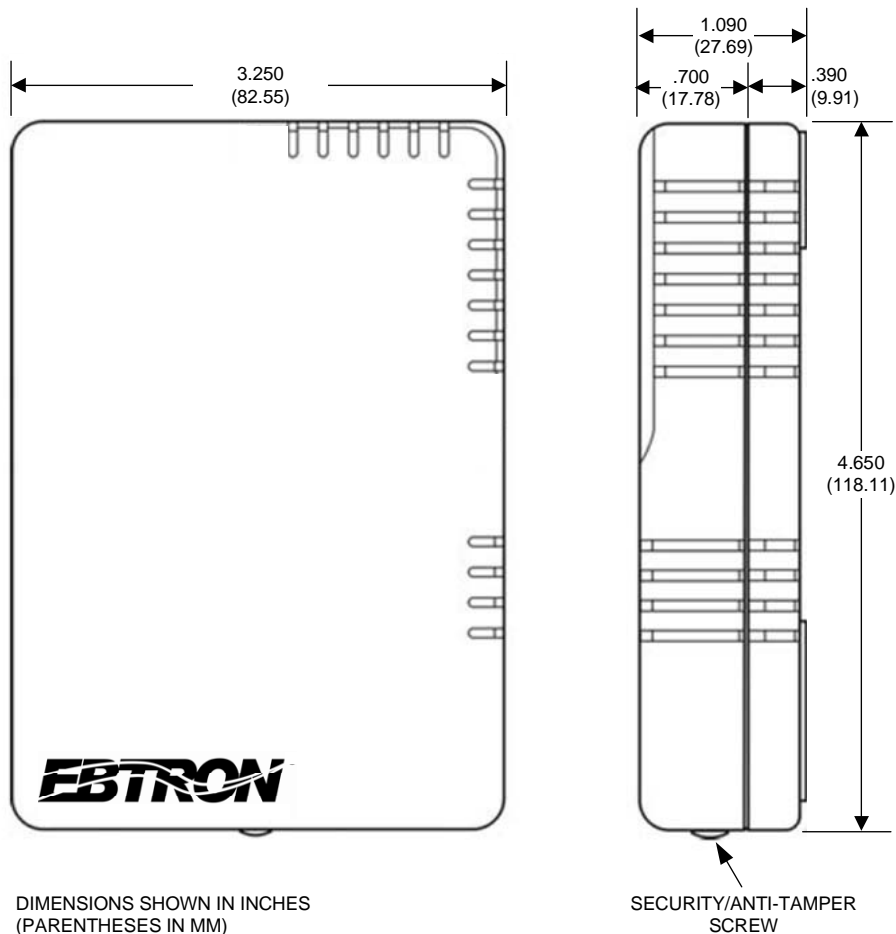
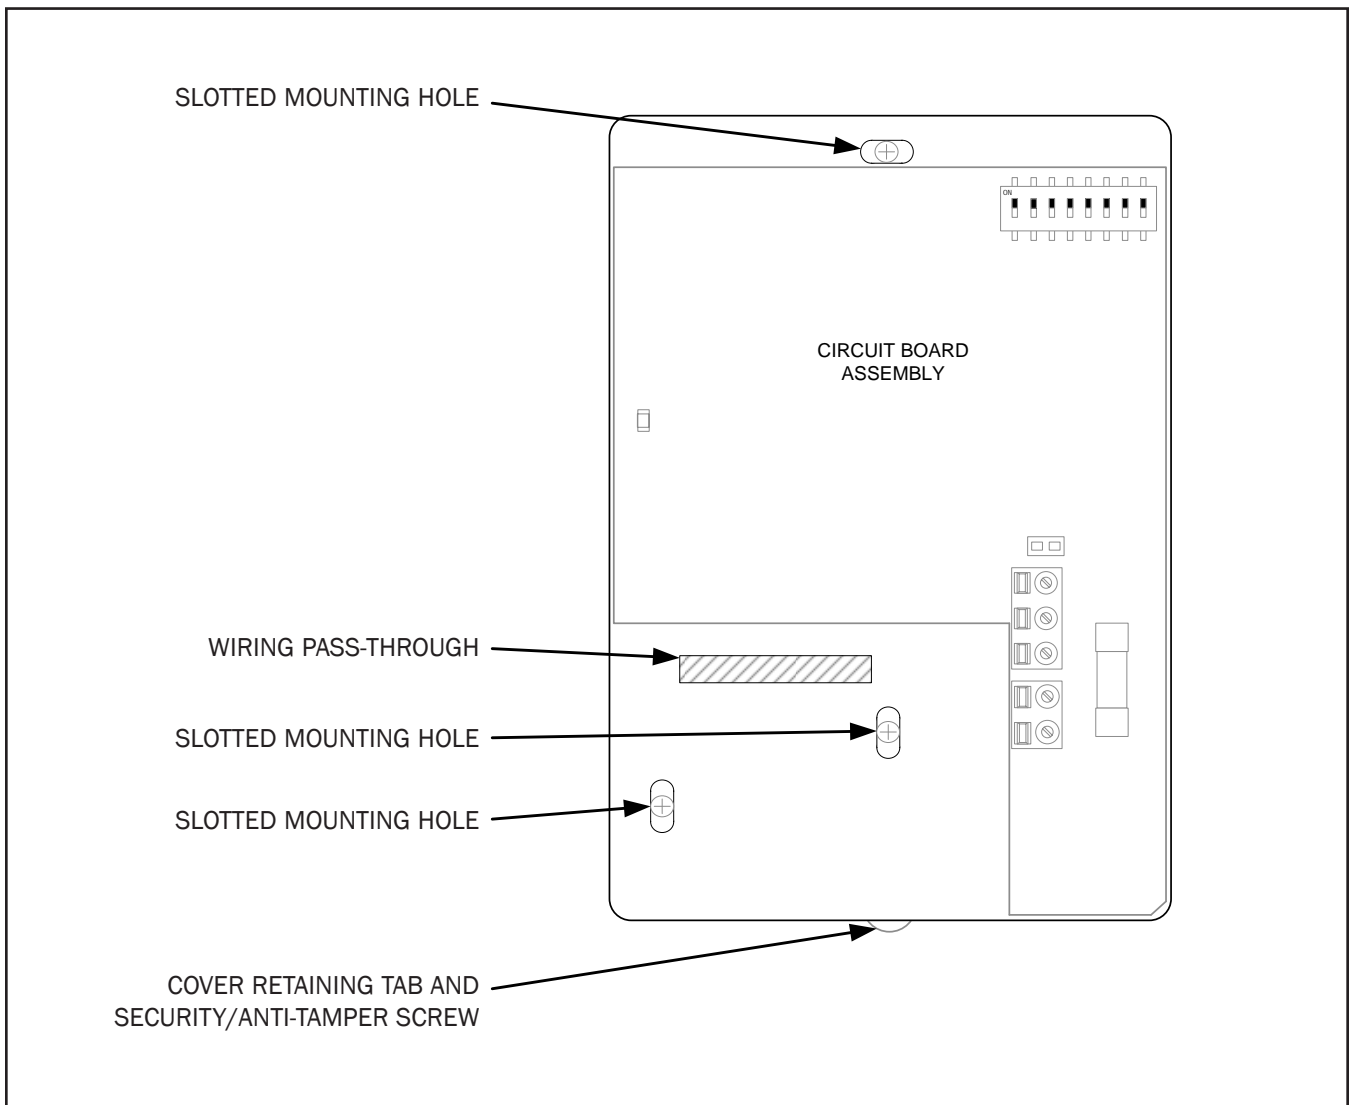

Figure 2. IAQ-200 Outline Dimensions
Figure 3. Marking Locations for Installation
Figure 2 details the mechanical outline dimensions of the IAQ-200. The location selected for the IAQ-200 is important to ensure accurate readings that are representative of the area to be monitored. Preferred mounting locations are:
Read and understand all installation instructions prior to installing the IAQ-200. The IAQ-200 is designed for surface mount installation, or for installation onto a standard (field supplied) single gang electrical junction box. Installation and wiring of the IAQ-200 must be accomplished in accordance with all local electrical and mechanical codes to ensure safety and compliance. Refer to Figure 2 for IAQ-200 outline dimensions, and Figure 3 for mounting hole locations.
5. Using the IAQ-200 base as a template, mark the location for the wiring pass-through slot and for the mounting screws as shown in Figure 3. For mounting directly to a single-gang electrical junction box, proceed to step 8.